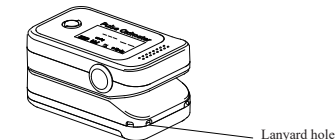

Figure 4
- Thread the thinner end of the lanyard through the lanyard hole. The position of the lanyard hole is shown in **Figure 4**. (Notice: the lanyard hole is on both sides.)